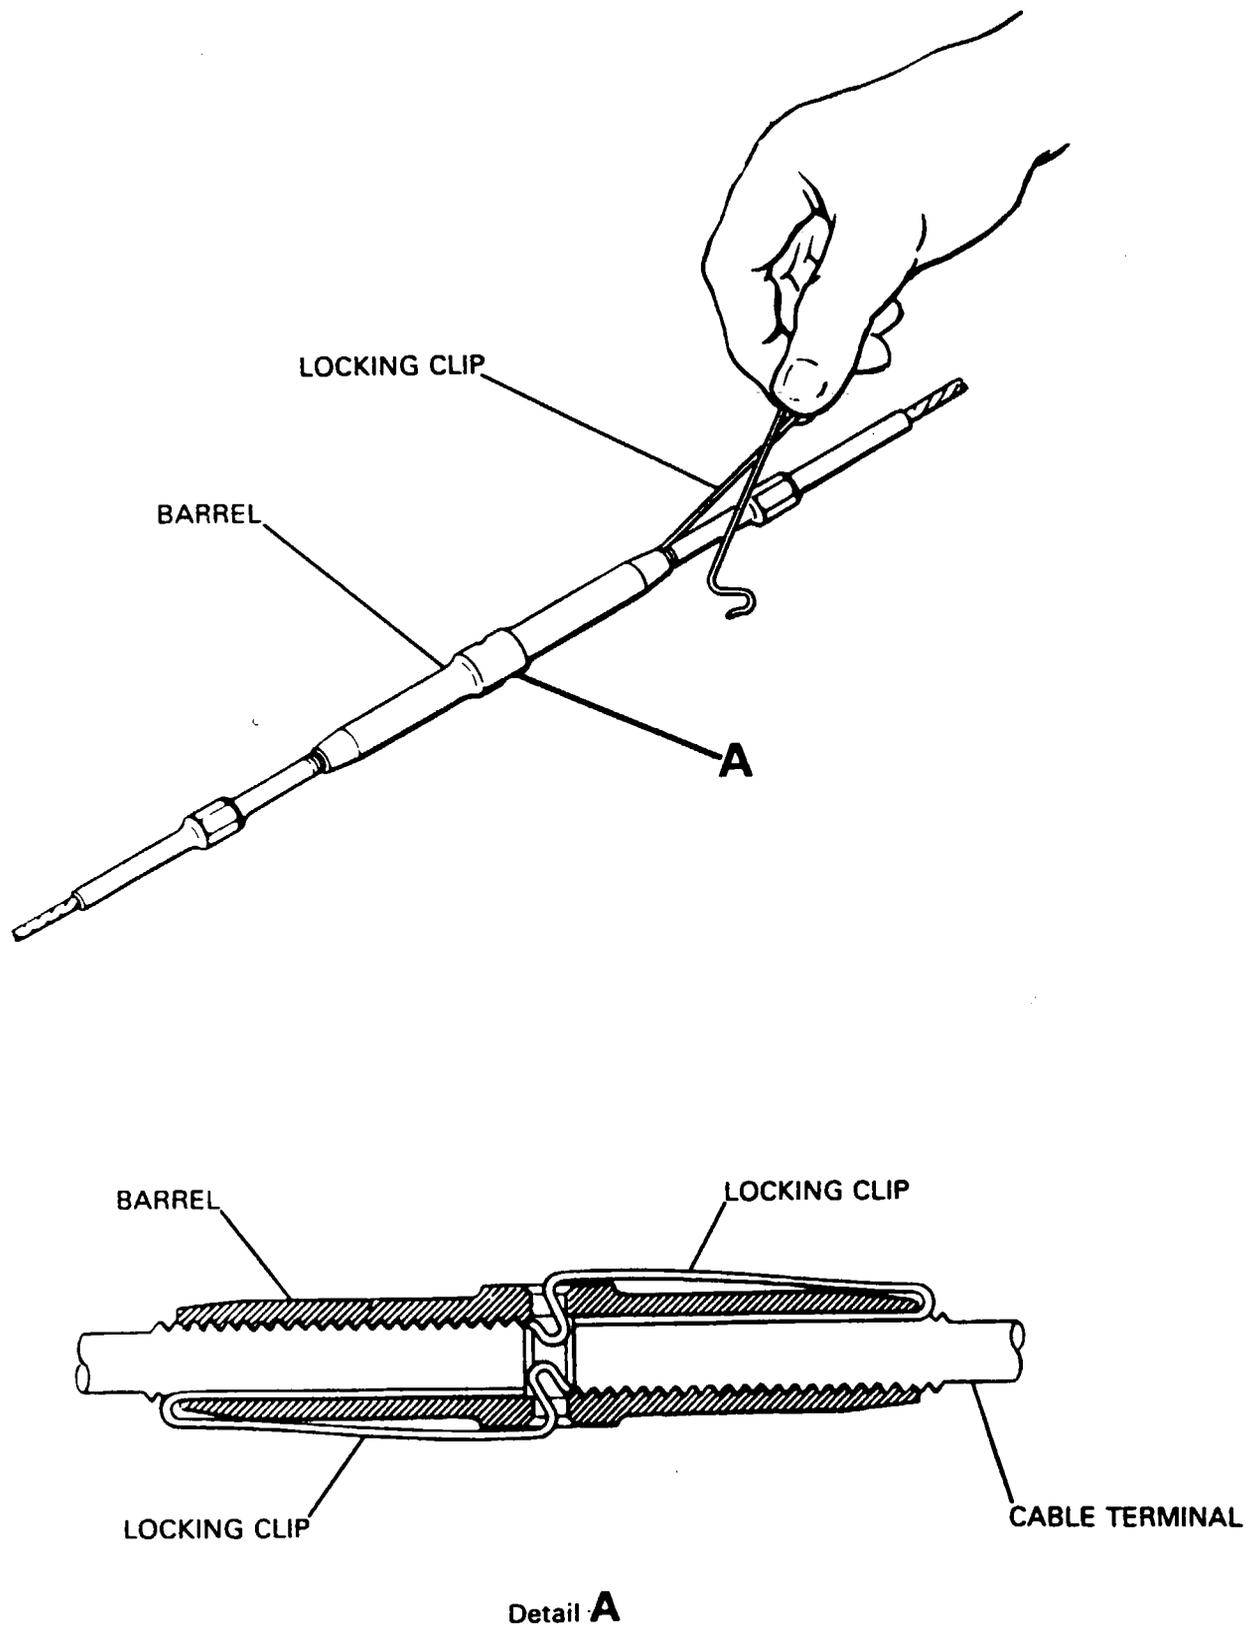

Figure 1-6. Safetying Turnbuckle Assemblies
a. Safeying Turnbuckles. (See Figure 1-6.)
2. After turnbuckle has been adjusted to its locking position, with slot indicator groove on terminals and slot indicator notch on body aligned, insert end of locking clip into terminal and body (refer to Figure 1-6) until U-curved end of locking clip is over hole in center of body.